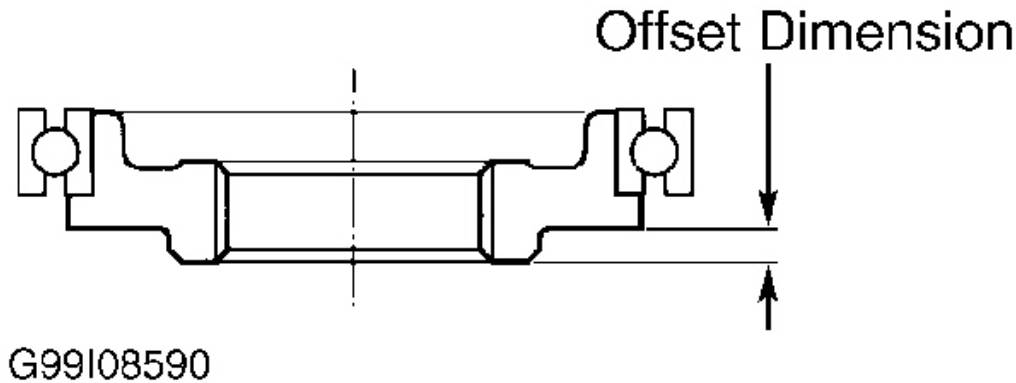

Fig. 38: Identifying Selective Portion (Snout) Of Bearing Hub/Bearing Assembly
(1) Thickness of bearing hub/bearing assembly snout, see **Fig. 38**.